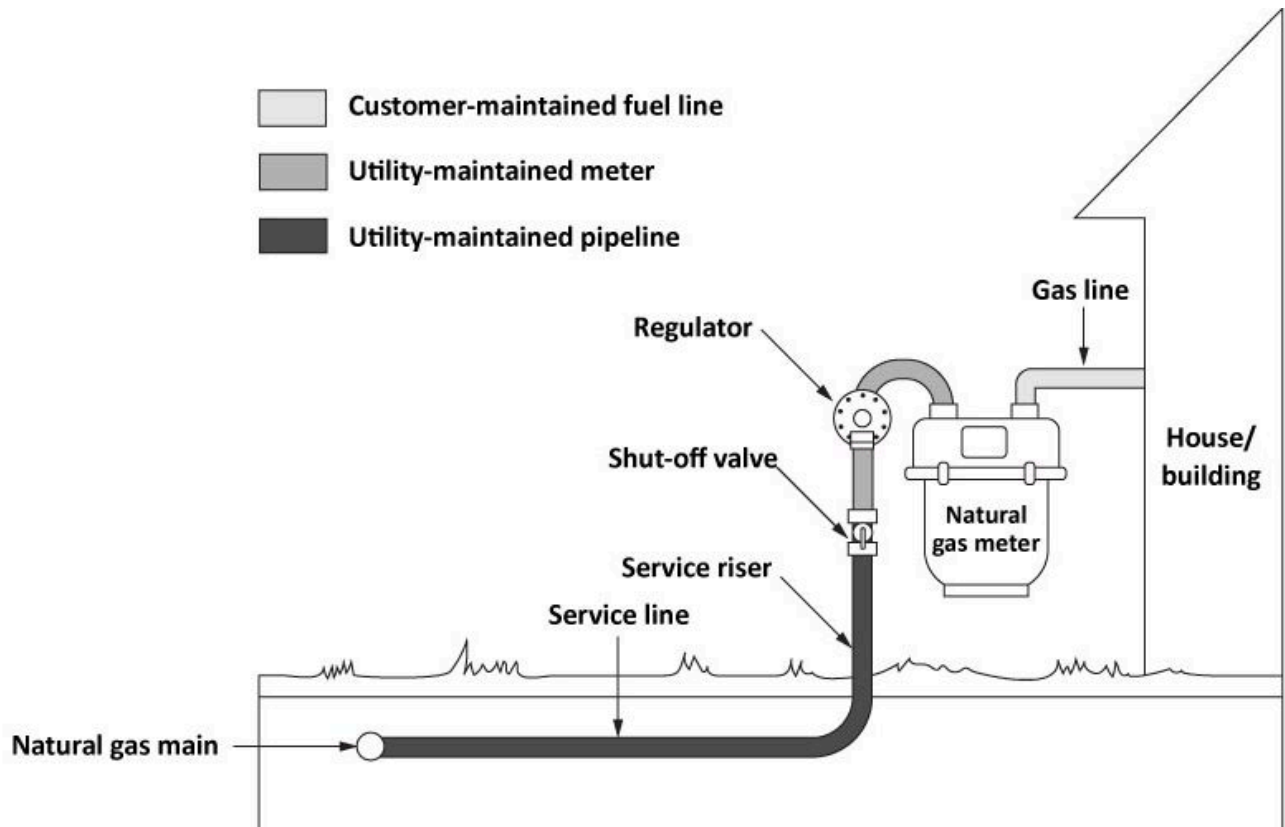

Figure 5. Consumer gas service.
The gas utility installs and maintains the gas service, which includes the service line, service riser, service stop (valve), service regulator, and meter (Figure 5).
- Figure 5 “Consumer gas service” by Camosun College is licensed under a CC BY 4.0 licence.